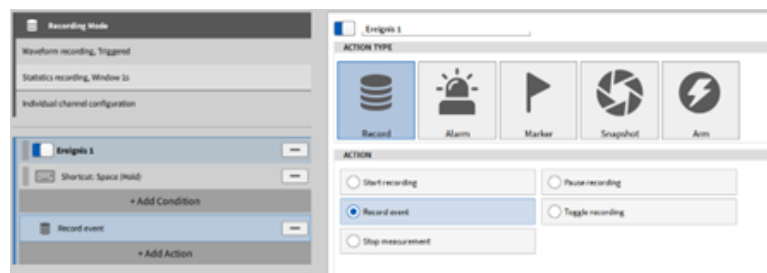

Fig. 9.36: Record Event Action Type
- Select *Record Event* as *Recording Action Type* (see Fig. 9.36):